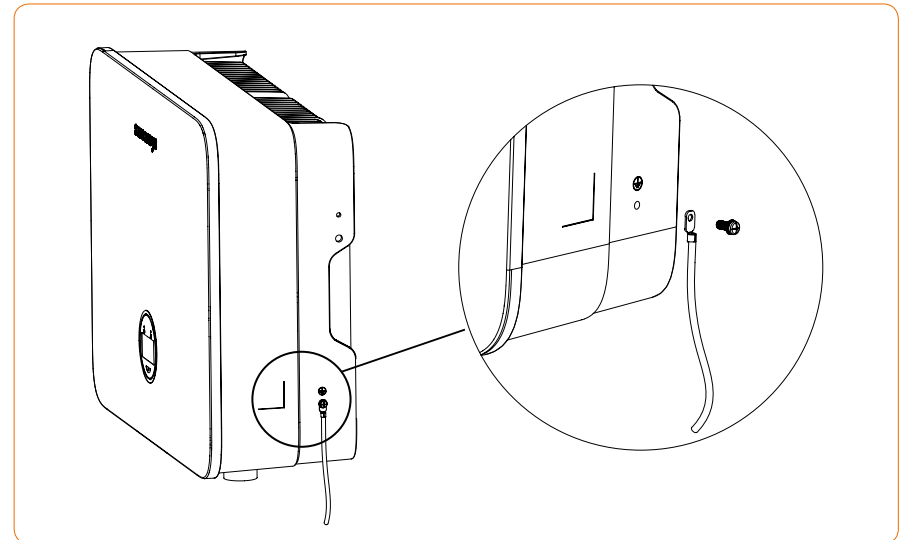

Figure 4-9 Grounding terminal connectio
- ① The external grounding terminal is located in the lower right side of the inverter.
- ② Fix the grounding terminal to the PE wire with a proper tool and lock the grounding terminal to the grounding hole in the lower right side of the inverter, as shown in Figure 4-9.
- ③ The cross-sectional area of the external grounding cable is 4mm².